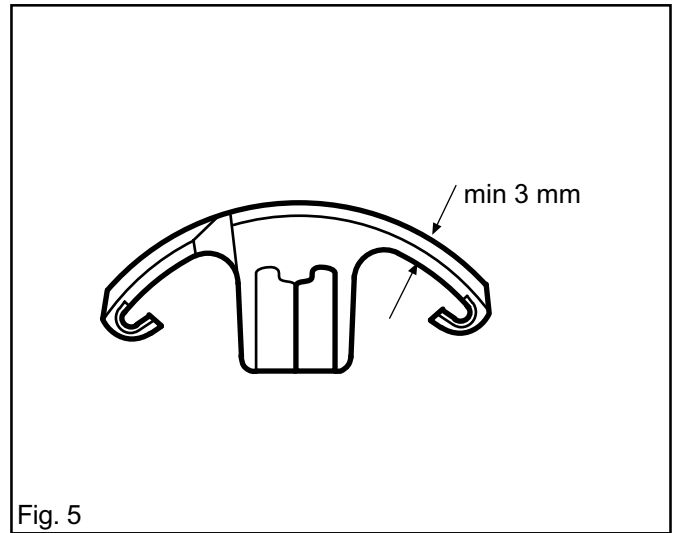

Fig. 5
1. Lining thickness on the clutch shoes should not be less than 3 mm in the most worn area. See fig. 5. In order to avoid imbalance, all clutch shoes should be replaced at the same time.
1. The taper on the adjustment screw (E) does not show signs of wear. See fig. 5.
2. The pump piston (H) eccentric face does not show signs of wear. See fig. 5.
3. The pump piston pinion is undamaged. See fig. 5.